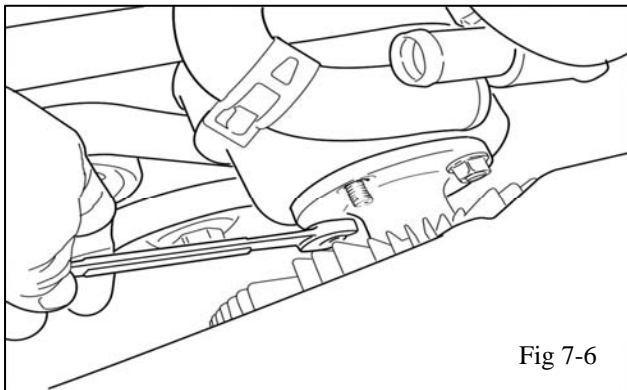

Fig 7-6
- (e) Remove the four nuts that attach the fan/clutch to the fan pulley (Fig 7-6). Leave the fan in place for now.